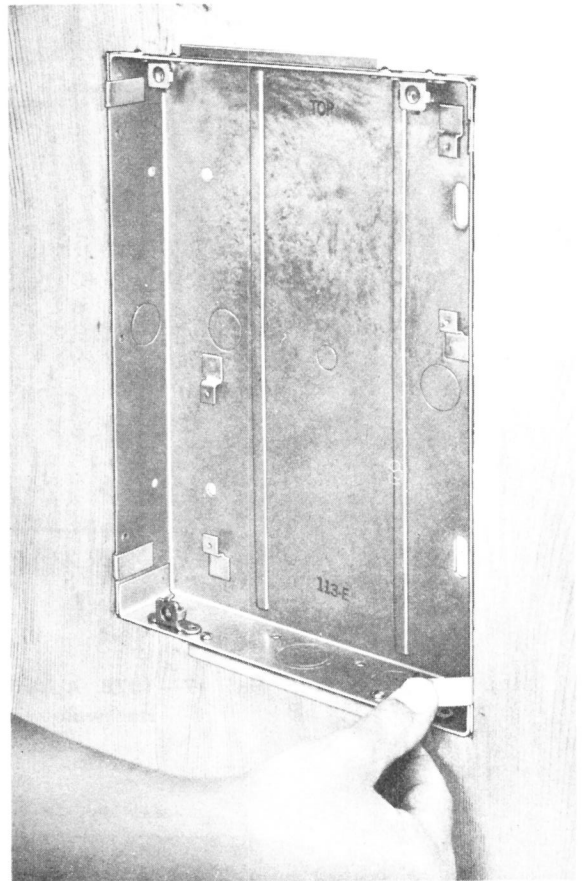

Fig. 16—113E Apparatus Box, Showing Installed D-179941 Kit of Parts
(4) Bend the clip tabs over the side of the box locking the box firmly to the wall (Fig. 16).